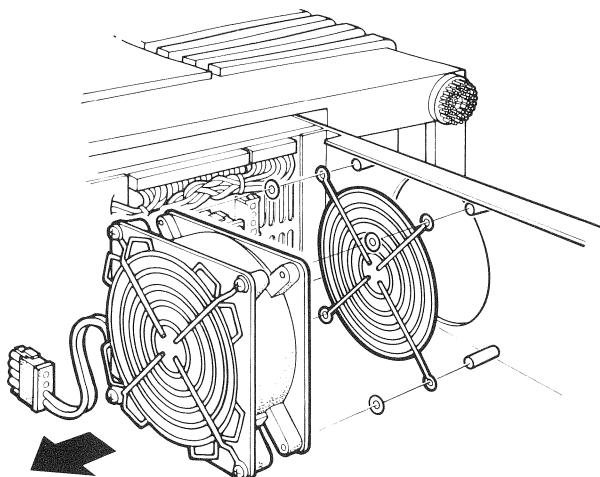

Figure 8-28 Front Cooling Fan Removal
6. Remove the four screws and spacers that hold the fan and fan guard to the chassis and remove the fan (Figure 8-28).